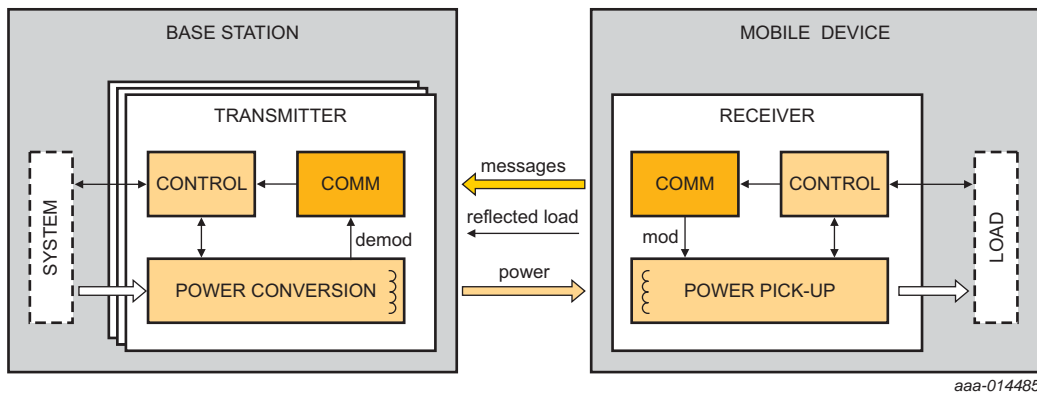

Fig 1. Wireless charging system as defined by Wireless Power Consortium
The Qi system (see Figure 1) comprises a base station or a transmitter (TX) pad and a mobile device or a compatible receiver (RX), such as a mobile phone. To use the system, the mobile device is placed on top of the base station pad which charges the device via electromagnetic induction.
One-directional communication from the mobile device to the base station is achieved via back-scattered Amplitude-Shift Keying modulation as illustrated in Figure 1.